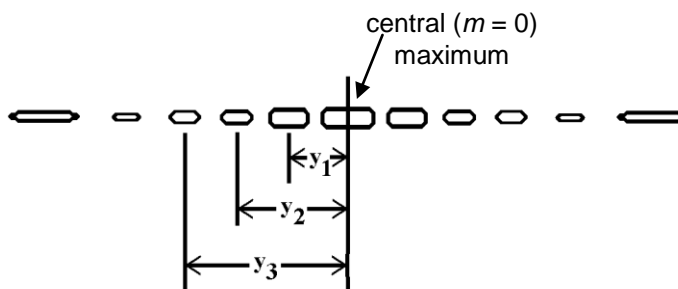

*Figure 2:* Note distance from position pointer to slits
- Secure the Multiple Slit apparatus on the optics track far from the view screen and close to the laser. The slits-to-view screen distance  $D$  is an important parameter. You should aim to have  $D$  at least 1000 mm. As an aid to precise positioning note that the horizontal distance from the slits to the near edge of the positioning pointer at the base of the Multiple Slit apparatus is 21 mm as shown in *Figure 2* below.